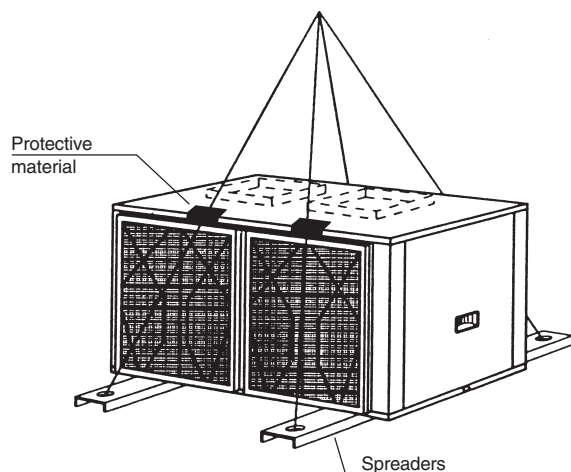

Fig. 17
- When rigging, use spreaders to prevent damage to the panels (see Figs. 17, 18 and 19).